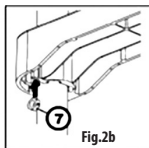
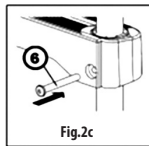

Fig.2b
Fig.2c
Slide the treads along stiles so that the holes for screws fit well with the holes in stiles. Put the nut (7) (**Fig. 2b**) into the groove in tread lower surface and fix the tread with screws (6) (**Fig. 2c**).